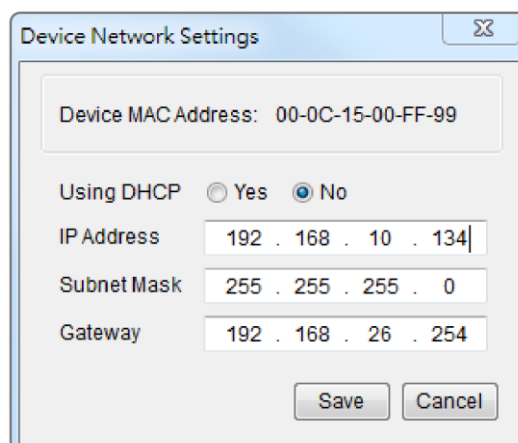

Figure 2. The Device Network setting window.
5. You can modify the IP Address, Subnet Mask, and Gateway address for the Device MAC Address listed in the Device Network Settings window, as shown in Figure 2. The factory default IP Address is 192.168.20.177 and the default Subnet Mask is 255.255.255.0.